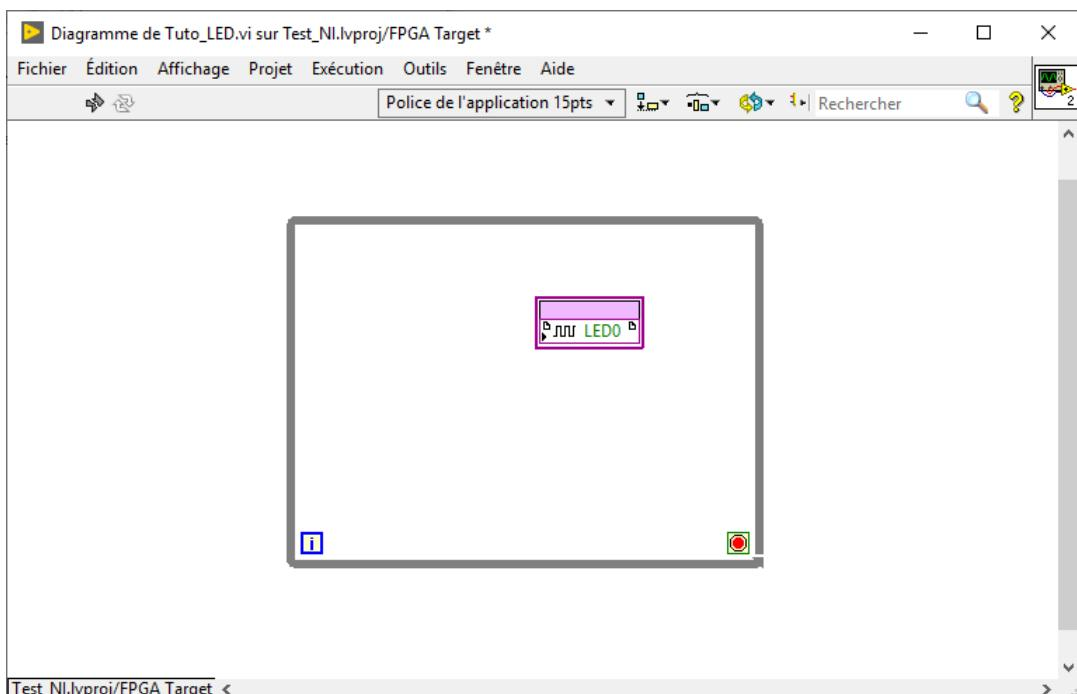

Figure 2.2: While loop in LABVIEW
3. add a while loop (search for “while loop” in the search bar) and create a square as shown on figure 2.2;